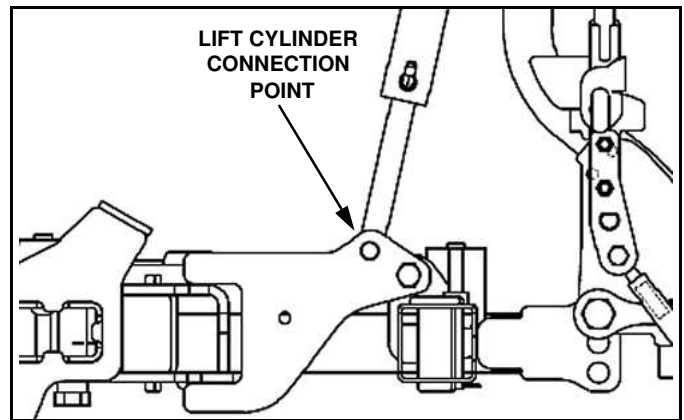

Figure 1-22
19. When the top A-frame lug holes are used, the lift cylinder lower mounting brackets (p/n 96112623) must be used to provide a higher connection point for the lift cylinder. (See Figure 1-22).
- a. Position the mounting brackets (p/n 96112623) on the A-frame crossmember with the lift cylinder connection point positioned as shown. (See Figure 1-22).